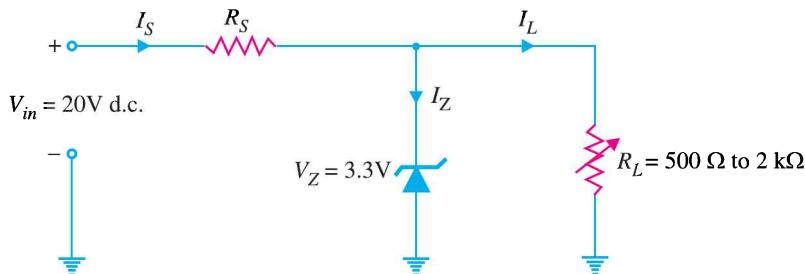

Fig. 17.12
**Example 17.10.** Determine the minimum acceptable value of  $R_S$  for the zener voltage regulator circuit shown in Fig. 17.12. The zener specifications are :
**Example 17.11.** Determine the maximum allowable value of  $R_S$  for the zener voltage regulator circuit shown in Fig. 17.12.